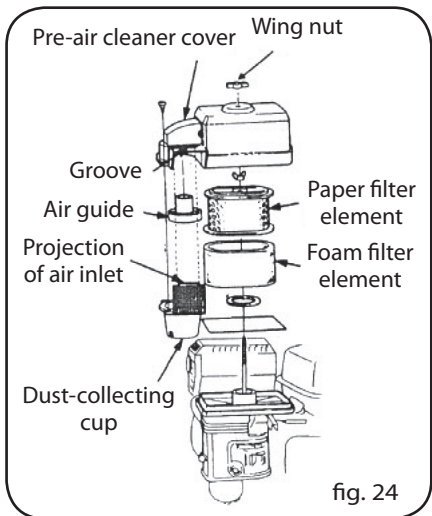

fig. 24
**Dust-collecting type (Fig. 24)**